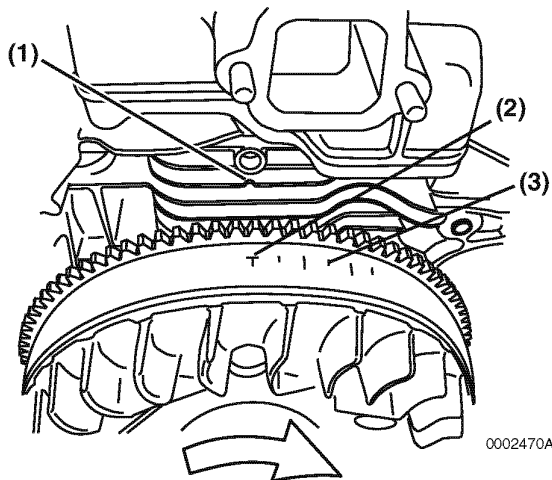
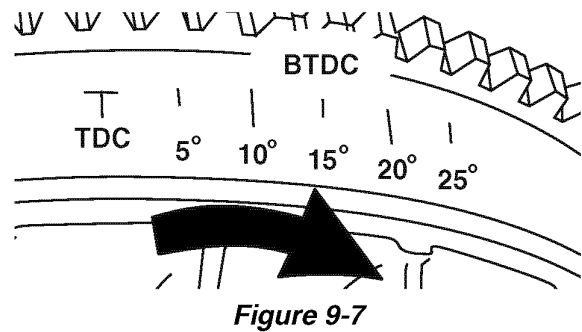

Figure 9-6
Figure 9-7
4. Highlight the TDC timing mark on the cylinder cooling fin (**Figure 9-6, (1)**).
5. Highlight the TDC (Top Dead Center) (**Figure 9-6, (2)**) and target timing (**Figure 9-6, (3)**) marks BTDC (Before Top Dead Center) on the flywheel timing grid (**Figure 9-7**) based on the Fuel Injection Timing Chart.